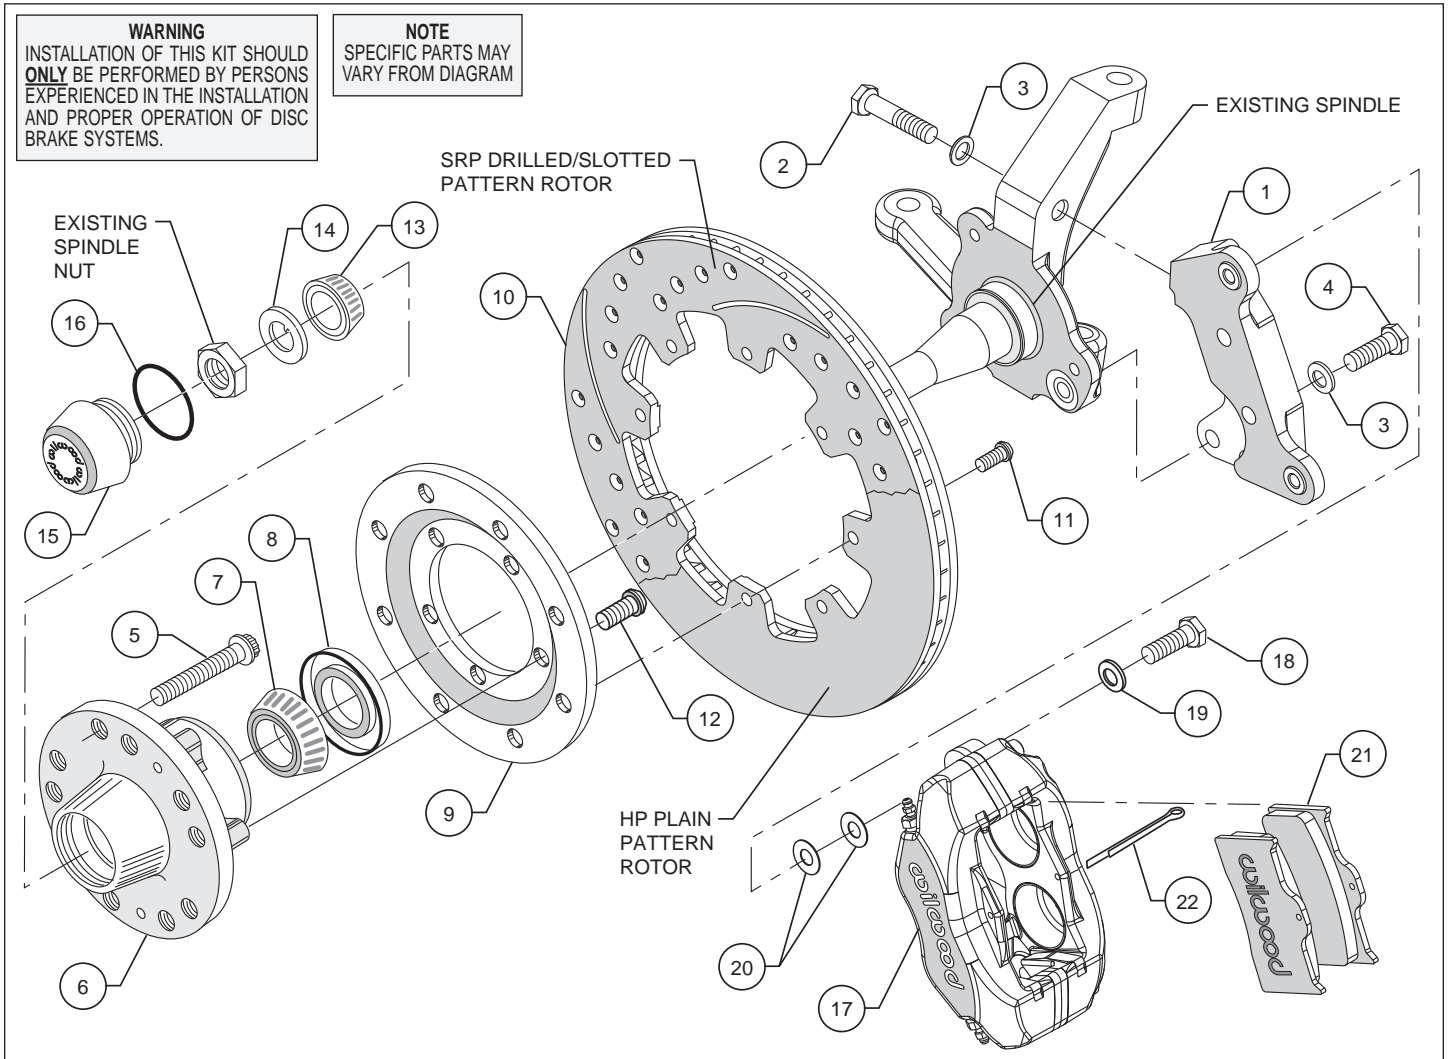
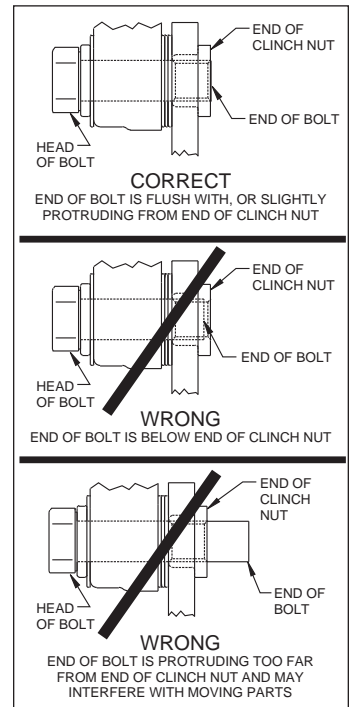

Figure 1. Typical Installation Configuration
Figure 3. Clinch Nut Engagement Diagram
### Assembly Instructions (numbers in parenthesis refer to the part lists, and Figure 1):
**CAUTION:** All mounting bolts must fully engage insert nuts. Be sure to check that all bolts are either flush or protruding through flanged side of insert nut after shimming, Figure 3.
- Orient the caliper mounting bracket (1) on the inboard side of the spindle as shown in Figure 1. Install bracket using bolts (2 and 4), and washers (3), Figure 1. Ensure that the flanged heads of the clinch nuts in the bracket are facing outboard. Temporarily tighten the mounting bolts. **NOTE:** *The bracket must fit squarely against the mounting points on the spindle.* Inspect for interference from casting irregularities, machining ridges, burrs, etc. Remove bolts one at a time, apply red *Loctite*® 271 to threads, and torque bolts to 55 ft-lb.
- Install wheel studs (5) into the hub (6), Photo 1. Torque to 77 ft-lb. **NOTE:** *There are two lug patterns of five holes each in the hub (5 x 4.50 and 5 x 4.75).* Make sure of the correct hole pattern for the wheel application before installing the studs into the hub.
- Pack the large inner bearing cone (7) with high temperature disc brake bearing grease (available from your local auto parts store) and install into the backside of the hub (6), Photo 2.
- Install the grease seal (8) by pressing into the backside of the hub (6), flush with the end of the hub, Photo 2.
- Orient the rotor (10) and the rotor adapter (9) as shown in Figure 1 and Photo 3. Attach the rotor to the adapter using bolts (11). Using an alternating sequence, apply red *Loctite*® 271 to the threads, and torque to 25 ft-lb.
- Mount the adapter/rotor assembly (9/10) to the hub (6) using bolts (12), as shown in Figure 1 and Photo 4. Using an alternating sequence, apply red *Loctite*® 271 to the threads, and torque to 55 ft-lb.
- NOTE:** Please reference the caution statement at the beginning of the assembly instructions. Mount the caliper (17) onto the caliper mounting bracket (1) using bolts (18) and washers (19), as shown in Figure 1. Initially place two .035" thick shims (20) on each bolt between the caliper and the bracket, Photo 7. Temporarily tighten the mounting bolts and view the rotor (10) through the top opening of the caliper. The rotor should be centered in the caliper, Photo 8. If not, adjust by adding or subtracting shims between the bracket and the caliper. Always use the same amount of shims on each of the two mounting bolts. **NOTE:** The end of each bolt must be flush with or slightly protruding from the head of the clinch nut, as shown in Figure 3. If necessary place spare shims between washer (19) and caliper mounting ear to achieve the proper clinch nut engagement. Once the caliper alignment and clinch nut engagement are correct, remove the bolts one at a time, apply red *Loctite*® 271 to bolt threads, and torque to 40 ft-lb.